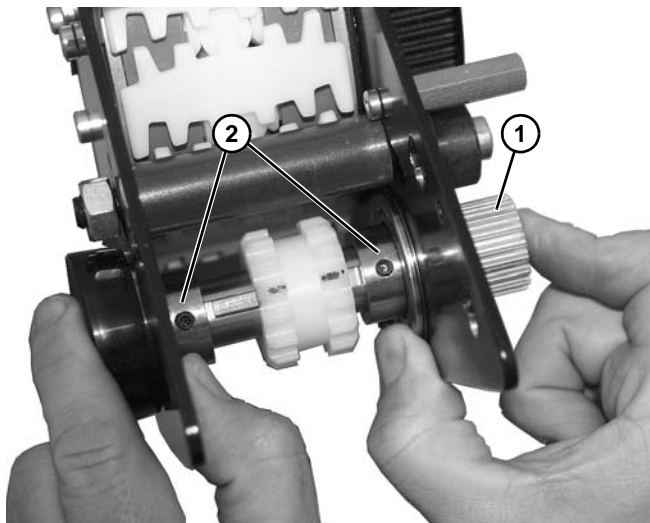

Figure 170
1. Install drive shaft (Figure 170, item 1) on two bearings (Figure 170, item 2) and press outward as shown.